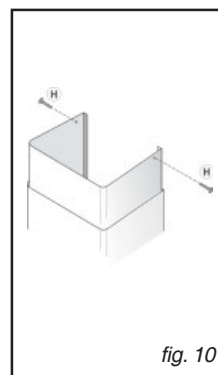

fig. 10
- Insert the telescopic flues setting them on the hood; extend the upper flue to the ceiling and secure with the 2 screws (H) - fig. 10.
- Insert the telescopic flues setting them on the hood; extend the upper flue to the ceiling and secure with the 2 screws H (fig. 10).